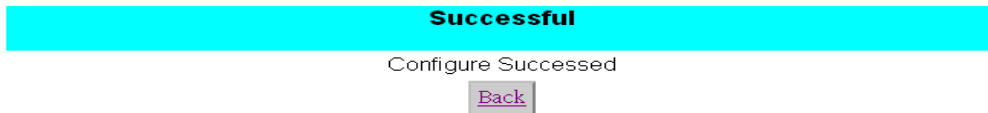

Fig. 29. Configuration successfully updated
- Note : If the update is successful, the following screen shall appear (Fig. 29)